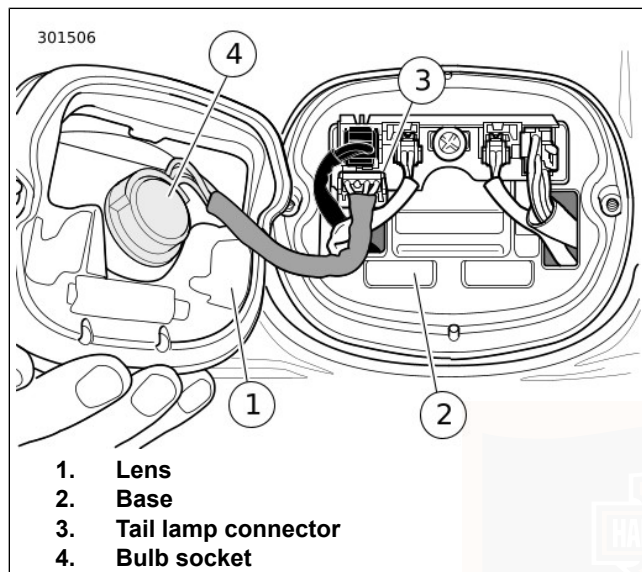

Figure 101. Tail Lamp Assembly
2. See Figure 101. Disconnect tail lamp connector (3).
3. Rotate bulb socket (4) a quarter turn counterclockwise and remove from tail lamp assembly. Remove bulb.
2. See Figure 101. Insert socket (4) into tail lamp assembly. Rotate a quarter turn clockwise.
3. Attach tail lamp connector (3).